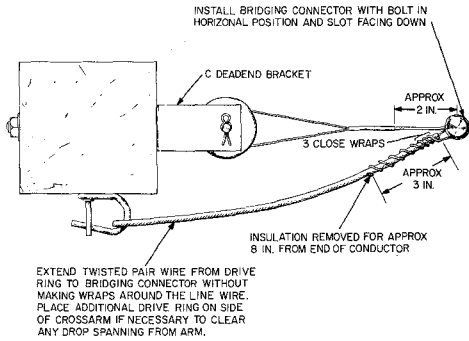

**Fig. 7—Where Line Wires are Tied to Pin-Type Insulators**
- (4) Extend bridle wire directly from last drive ring to bridging connectors without making any wraps around the line wire.
- (5) Connect each conductor at the open wire by means of a bridging connector installed with the bolt in a horizontal position and extend the excess length of bare conductor back on the insulated portion in spiral wraps as shown in Fig. 7 and 8.